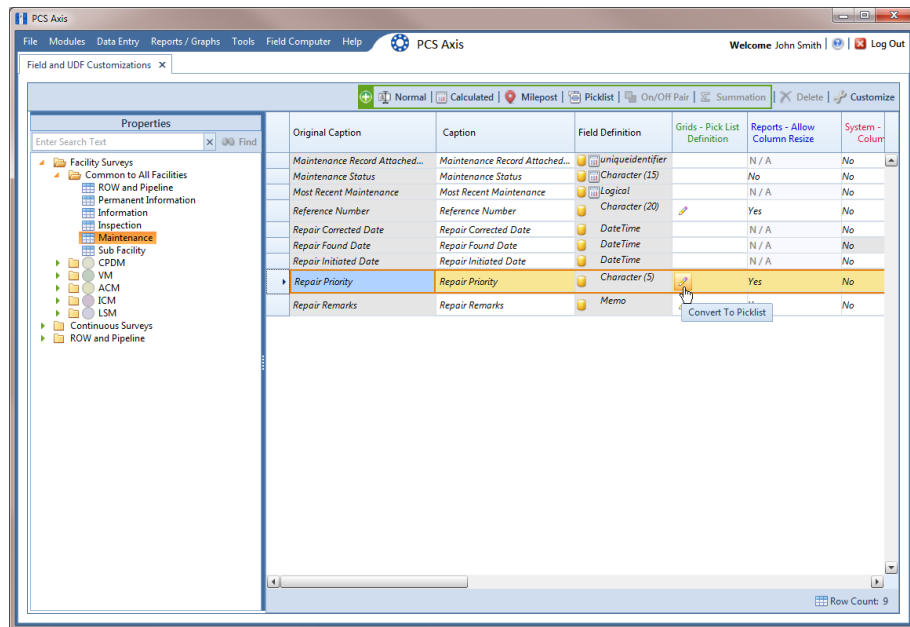

Figure 3-45. Field and UDF Customizations
For example, double-click **Facility Surveys > Common to All Facilities > Maintenance** to display a grid with fields and property settings related to all *Maintenance* data entry grids (Figure 3-45).
- 5 Convert the selected data entry field to a *Standard Picklist* field. Click the edit icon  in the *Grids-Picklist Definition* field for the data entry field selected earlier, such as *Repair Priority* (Figure 3-45, page 91).